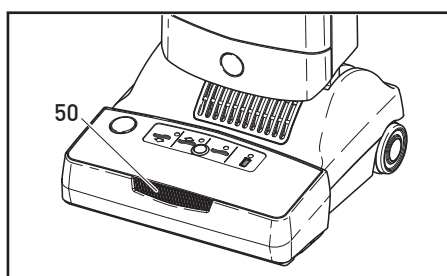

Figure 6
On carpeted floors (figure 6), the adjustment wheel (40) moves downward out of the machine so that the brush rises. The adjustment wheel moves up and down automatically to adjust the brush to the correct setting. This provides proper brush action, while maintaining optimal air flow.
The Search Light - Figure 6